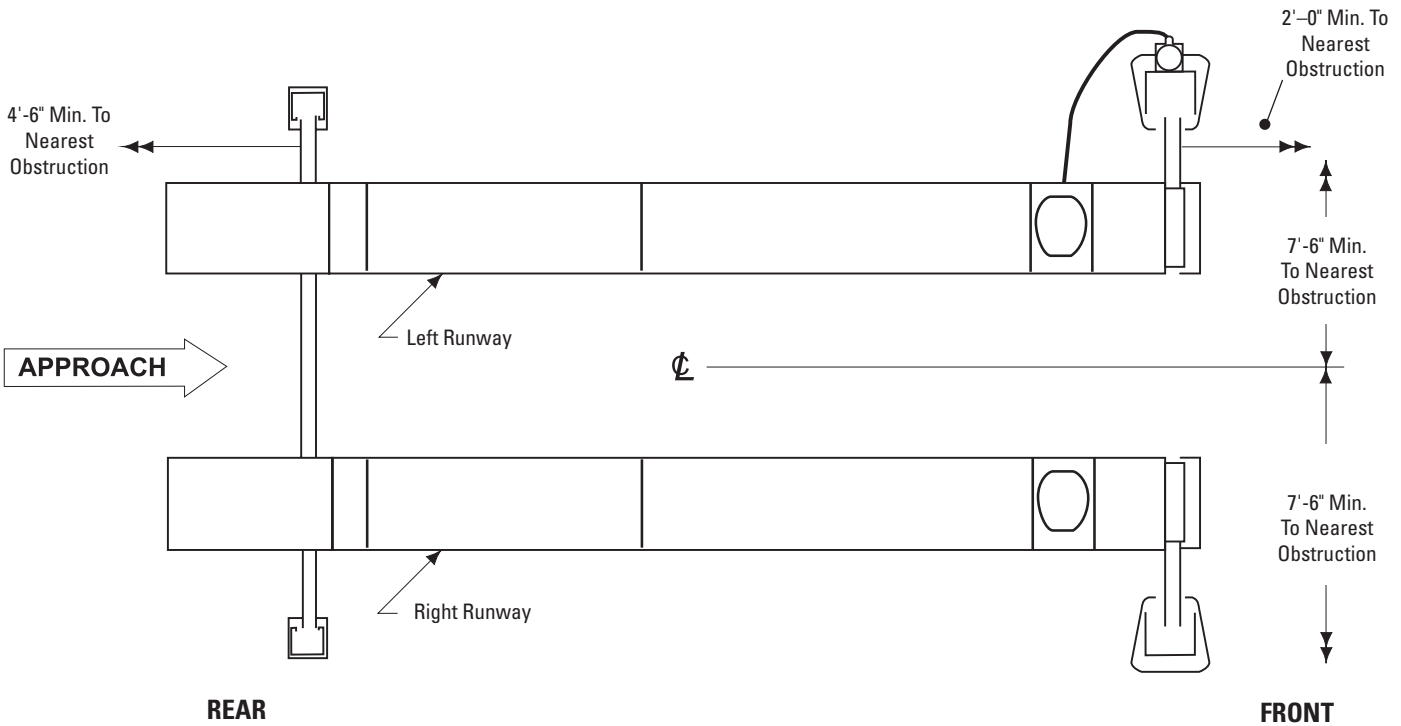

Fig. 1
**1. Lift Location:** Use architects plan when available to locate lift. Fig. 1 shows dimensions of a typical bay layout. Lift floor area should be level.